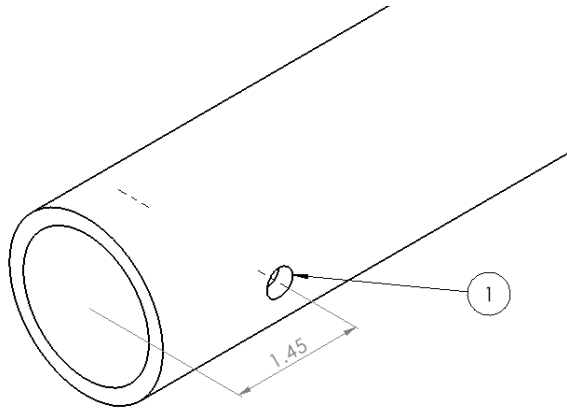

Figure 4.5
Remove the 90-degree corner from the side arm and place it inside the cross tube on both ends. Mark where the mounting holes on the corner are on the cross-tube, they should be approximately 1-1/2" from either end. Drill the mounting holes (1) in the cross-tube using a 5/16" drill bit. (Figure 4.5)